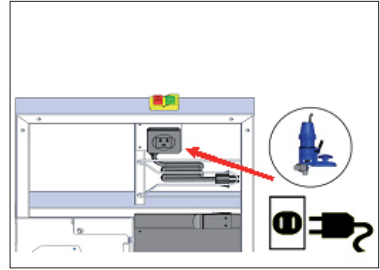

Fig. 17
- Turn off the power switch before operating the trimmer. Plug the trimmer power-plug into the embedded trimmer outlet on the working table (see Fig 17). If an emergency condition occurs, press the red emergency button to shut down the power immediately.